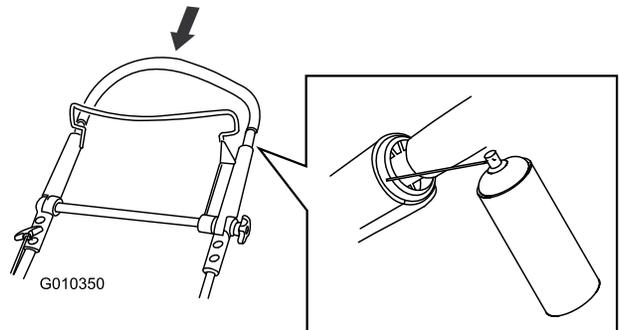

Figure 42
- Push the upper handle fully down and spray the inner plastic surface of the outer handle (Figure 42).